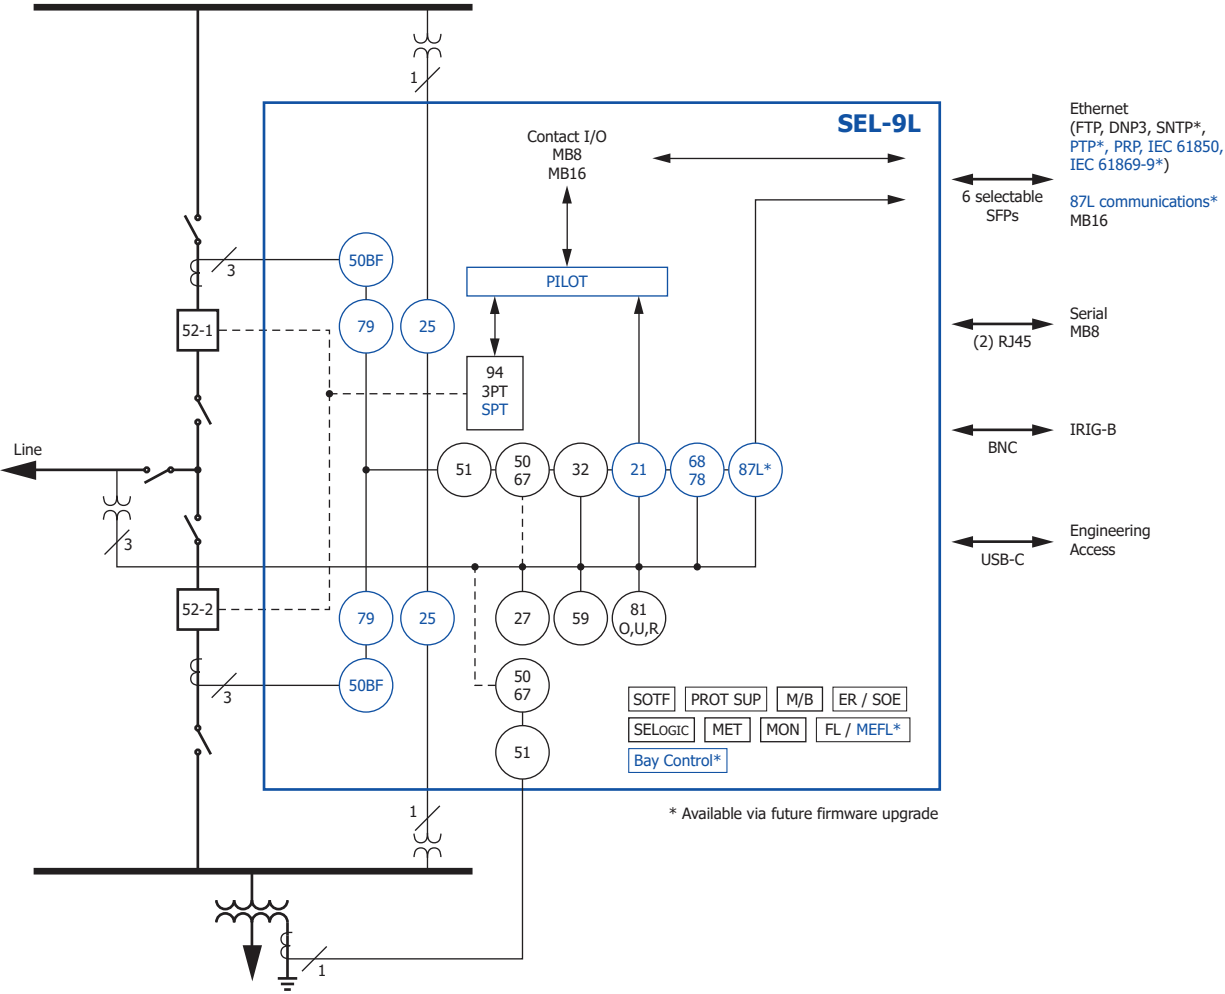

Figure 3 Feature Overview
*Figure 3* shows the features available in the SEL-9L base feature package (black) as well as available optional features (blue). Each of these features is described in *Table 3* (with both IEEE and IEC 61850 naming conventions, if defined) and detailed further in this data sheet.